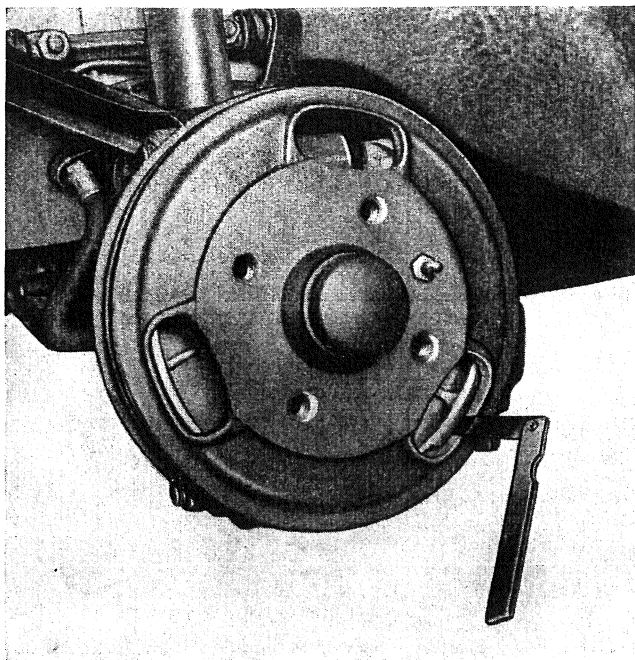

Fig. 366 - Checking shoe-to-drum clearance on right front wheel, with feeler gauge C. 114, « Sedan », (hinged-type shoes).
3) Insert the .0039" (0,10 mm) feeler blade (fig. 366) between drum and shoe, in correspondence with the lower anchor pins.